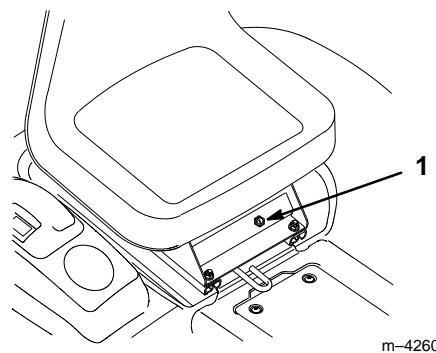

**Figure 10**
Become familiar with all the controls (Fig. 10) before you start the engine and operate the machine.
1. Push the brake pedal (Fig. 10) down and hold it in the depressed position. The machine will not drive while the parking brake is set.
2. Lift the parking brake lever (Fig. 10) up and gradually take your foot off the brake pedal. The brake pedal should stay in the depressed (locked) position.
1. Push down on the brake pedal (Fig. 10). The parking brake lever should release.